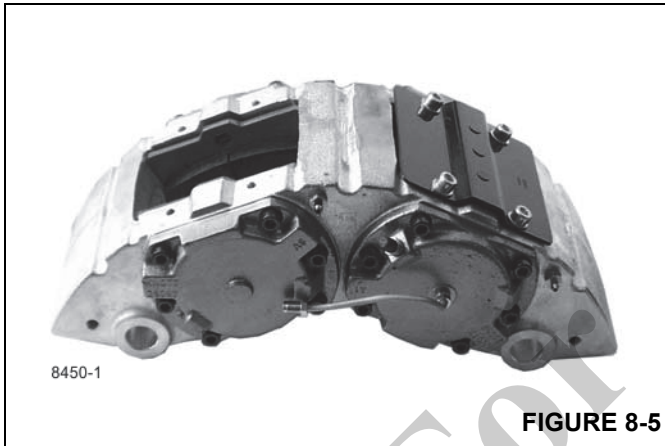

FIGURE 8-5
Figure 8-5 shows a 4 piston fixed caliper hydraulic disc brake. In the one piece caliper (1) (Figure 8-6), the brake pads (2) are secured by a cover (3), against coming loose. Every piston belongs to a lining pad. Every piston (4) is assembled in cylinder inserts, which have been screwed in the caliper (1) individually removable. The square sealing ring (5) forms a hydraulic seal around the piston whereas the sealing ring (7) forms a hydraulic ring around the cylinder insert (6). The pistons are protected, from dirt entering, by the dust cap (8).